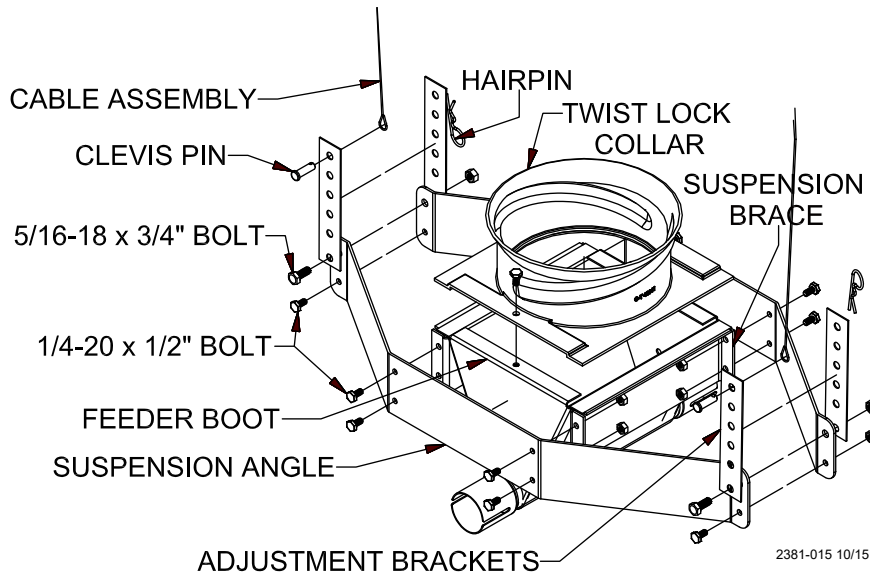

Figure 22.Hopper Assembly (Bottom)
4. Assemble suspension angles and suspension braces around feeder line boot (single or twin), using 1/4-20 x 1/2" Hex bolts and nuts (supplied in hardware package), **see figure 22.**
5. Assemble the twist lock collar to the top of the feeder line boot (single or twin) using 1/4-20 x 1/2" bolts and lock nuts (supplied in hardware package), **see figure 22.**
7. Two cable assemblies (cable with a sleeve clamp and a 5/32 thimble) are supplied with the suspension kit to support the hopper. Attach the cable assemblies to the adjustment brackets using the top holes of the adjustment brackets, **see figure 22.**